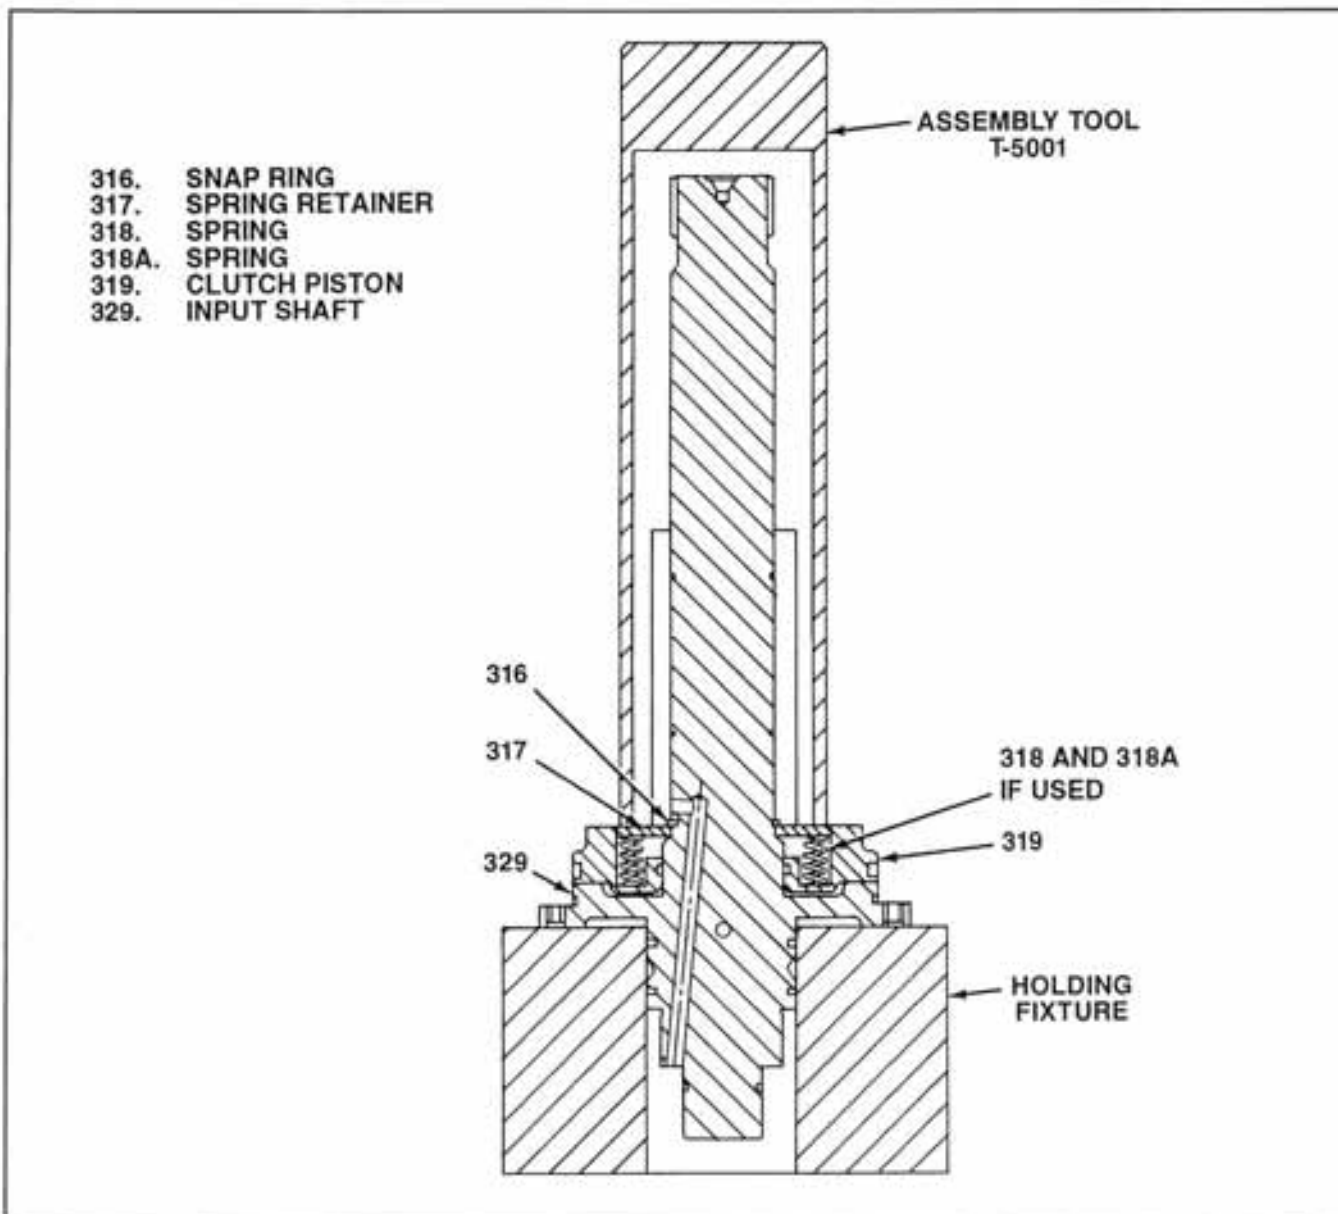

Figure 3-12. Removing Snap Ring
4. Support input shaft (329) in suitable holding fixture (see figure 3-12) in arbor press. Using assembly tool T-5001, press down on spring retainer (317) to compress springs (318, and 318A if used) slightly. Remove snap ring (316).
5. Slowly release arbor press, allowing springs (318, and 318A if used) to expand. Remove assembly tool and spring retainer (317). Remove sixteen springs (318) (transmissions 2001-000-011 thru -016) or four springs (318) and twelve springs (318A)